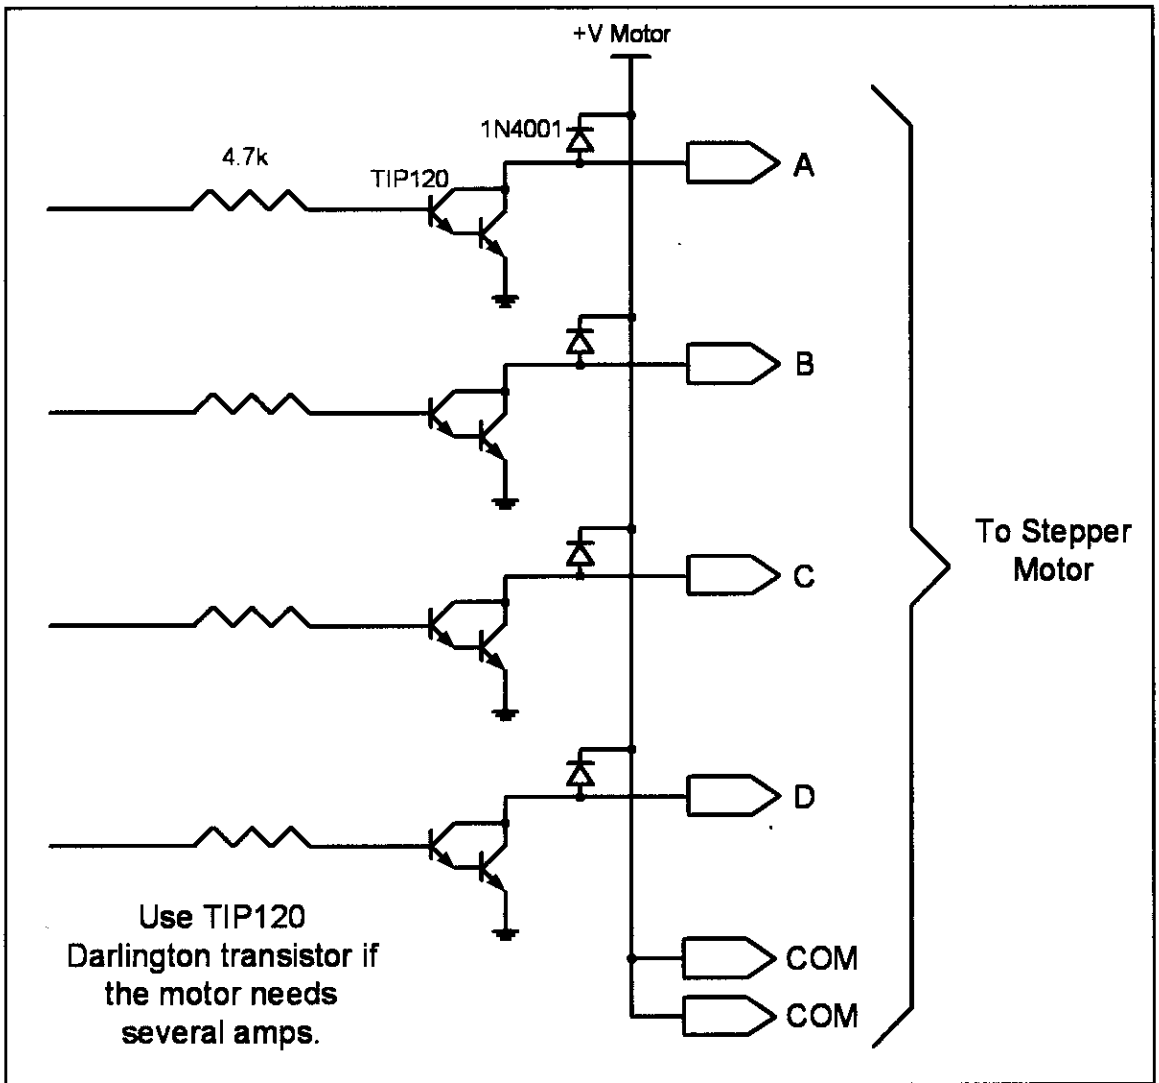

Figure 14-11. Using Transistors for Stepper Motor Driver
3. The four leads of the stator winding are controlled by four bits of the AVR port (PB0–PB3). Because the AVR lacks sufficient current to drive the stepper motor windings, we must use a driver such as the ULN2003 (or ULN2803) to energize the stator. Instead of the ULN2003, we could have used transistors as drivers, as shown in Figure 14-11. However, notice that if transistors are used as drivers, we must also use diodes to take care of inductive current generated when the coil is turned off. One reason that using the ULN2003 is preferable to the use of transistors as drivers is that the ULN2003 has an internal diode to take care of back EMF.
Unipolar stepper motors can be controlled using the basic interfacing shown in Figure 14-11, whereas the bipolar stepper requires H-Bridge circuitry. Bipolar stepper motors require a higher operational current than the unipolar; the advantage of this is a higher holding torque.
Figure 14-11 shows an interface to a unipolar stepper motor using transistors. Diodes are used to reduce the back EMF spike created when the coils are energized and de-energized, similar to the electromechanical relays discussed earlier. TIP transistors can be used to supply higher current to the motor. Table 14-8 lists the common industrial Darlington transistors. These transistors can accommodate higher voltages and currents.